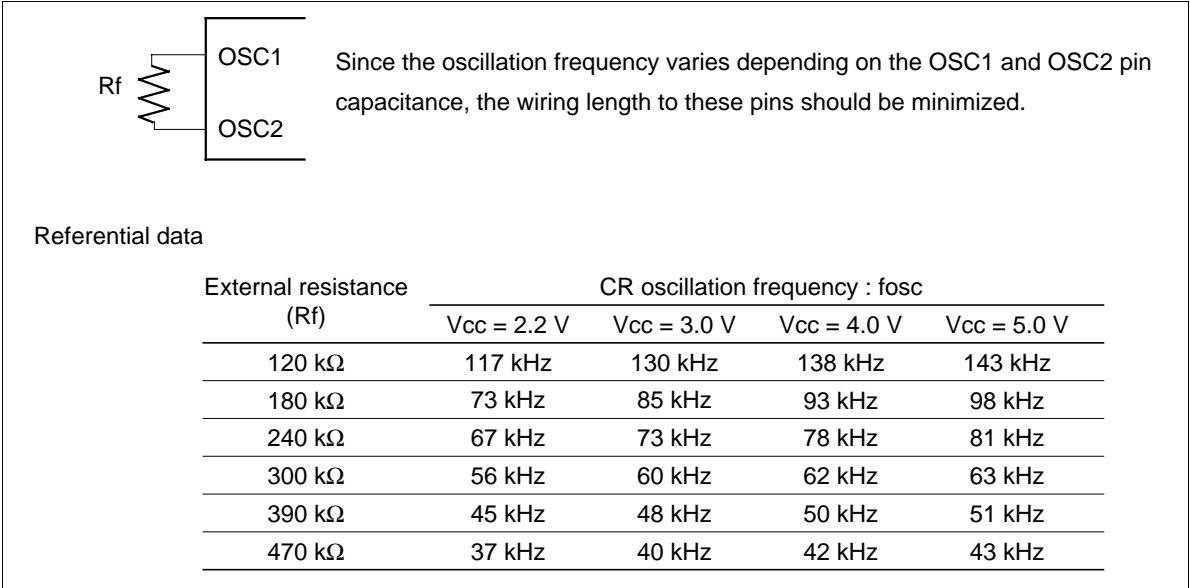

Figure 68 Internal Oscillation
14. Applies to the internal oscillator operations using oscillation resistor Rf (figure 68).